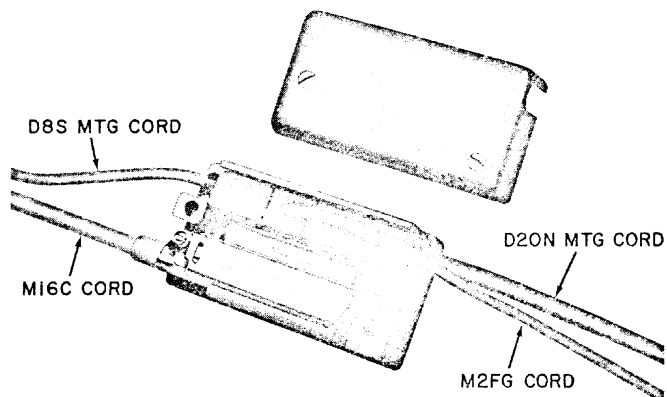

Fig. 5—223A Adapter
1.16 The 223A adapter interconnects the 4A speakerphone system (680-type transmitter, the 108-type loudspeaker set, and the 85B1 power unit) when the 82-type connecting block cannot be used. The adapter consists of a M16C cord (having a 50-pin connector on one end and spade-tipped leads on the other end), the M2FG cord, (for 85B1 power unit) and the plastic cover and base (Fig. 5). The M16C spade-tipped leads are to be connected to a connecting block or within the telephone set (Fig. 5).